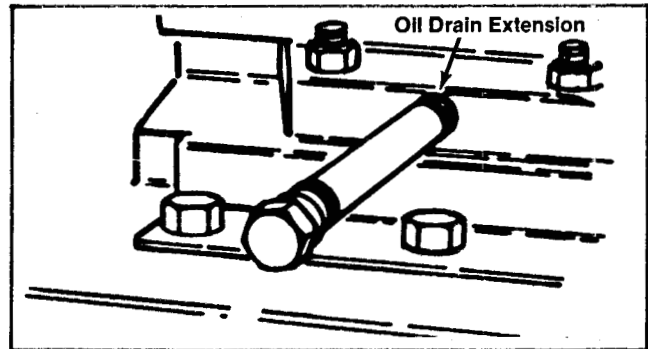

Figure 2
2. Clean the area around the oil drain cap. Next, slide the oil drain pan below the drain extension; then remove the oil drain cap. See Figure 2.